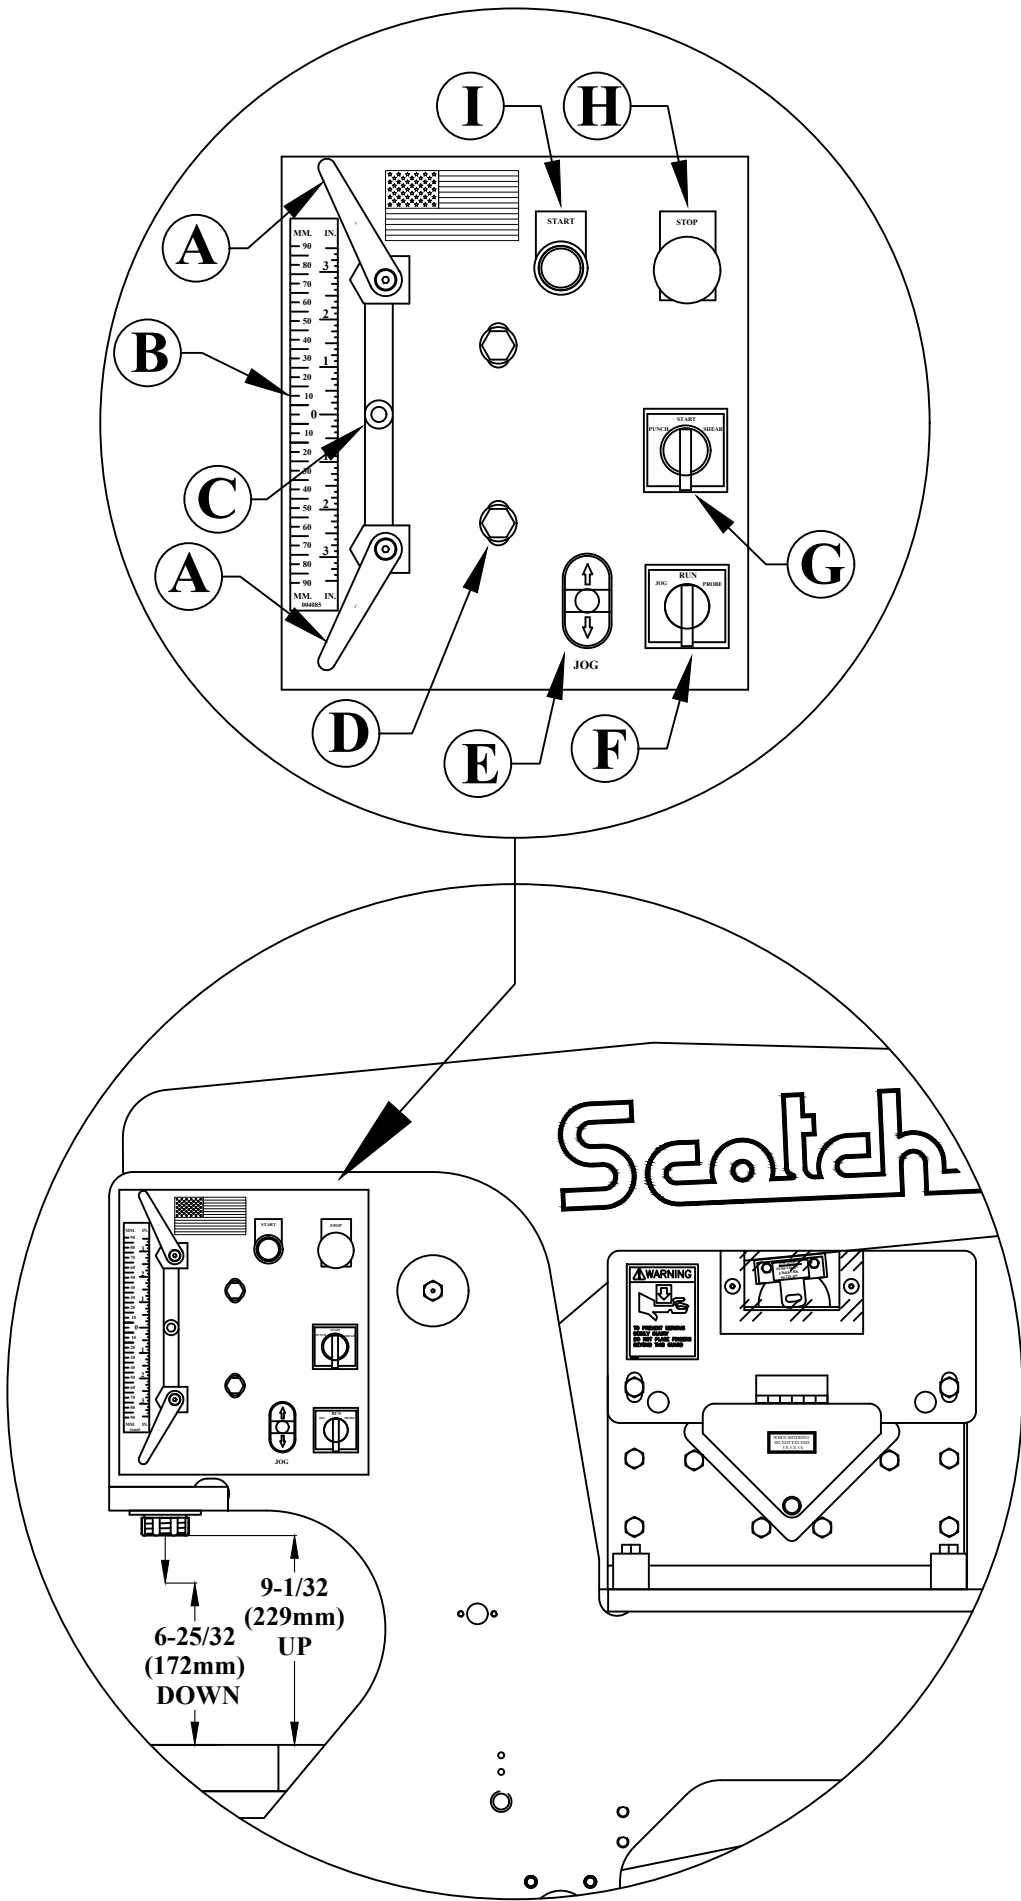

FIGURE 5
A check of the machine's stroke setting is made at the punch station; SEE FIGURE 5 ON THE FOLLOWING PAGE. Set the stroke control handles (A) out to their farthest position. Turn the selector switch (G) to the START position and power the machine. Then place this switch in the SHEAR position. Measure the distance from the top of the punch bolster to the bottom of the punch ram. The distance should be 9-1/32 inches (229mm). Turn the selector switch to the PUNCH position and measure the distance. The distance should be 6-25/32 inches (172mm).
1. Loosen the two mounting plate screws (D) that hold the mounting plate to the machine. SEE FIGURE 5 ON THE FOLLOWING PAGE.